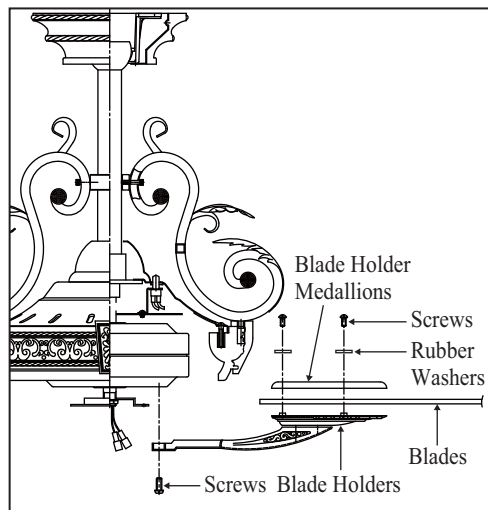

Figure 17
1. Attach the fan blades to the blade holder medallions and blade holders using the screws and rubber washers provided, tighten screws securely. (Fig. 17)
2. Align motor holes to blade holders and secure with screws provided, tighten screws securely. (Fig. 17)